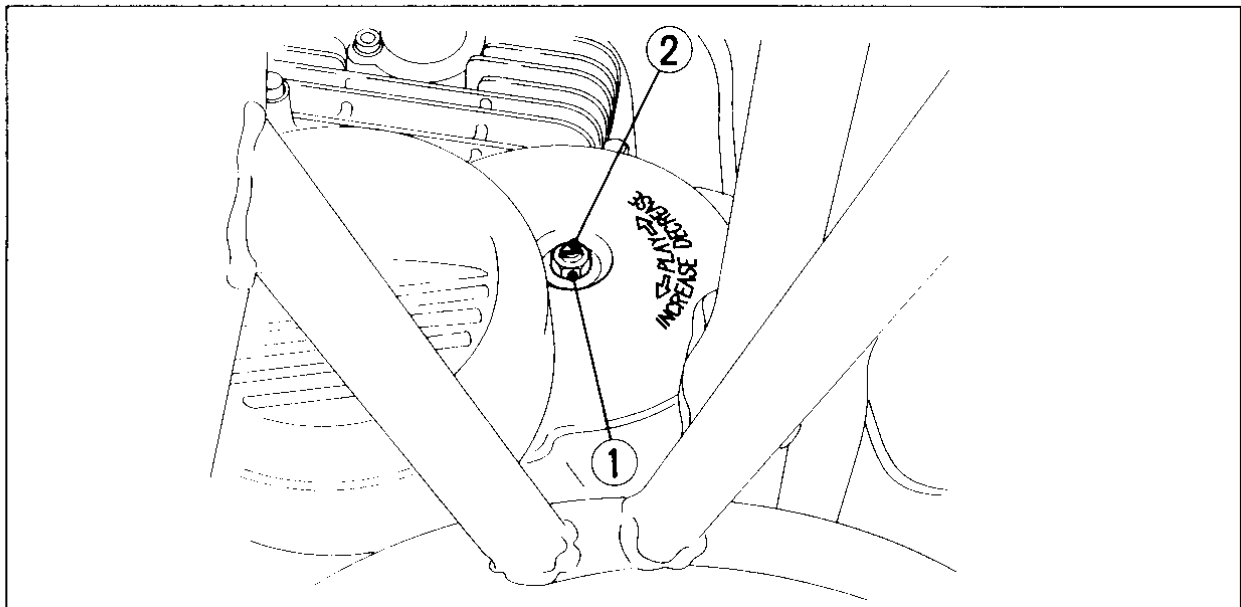

Fig. 4-17
2. Loosen the lock nut (Fig. 4-17), and turn the clutch adjuster (2) counterclockwise until you feel slight resistance.